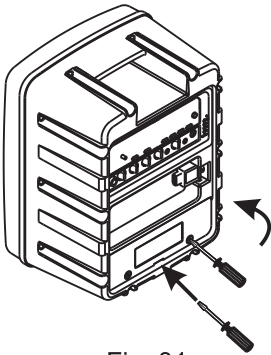

Fig. 31
- (A) Charge the battery completely in its first use to obtain its maximum capacity.
- (B) Connect to any available AC power outlet using the included DC adapter to the DC IN jack.
- (C) The Battery Charging Indicator  LED blinks while charging. Blinking LED may start later if the battery suffers from excessive battery drain. The battery may be damaged if the LED does not blink after charging for a while.
- (D) The battery is low when only the red LED is on. Please recharge the batter for at least 4 hours (the time of charging depends on the type of battery).
- (E) All LED blinking means the battery is charging. Charging completes when all LEDs glow.
- (F) Fully charge the battery for storage if it will not be used for an extended period of time. Battery may lose some capacity overtime. Over-discharged occurs and may damage the battery if not recharged for a long period of time. Thus, it is recommended to recharge often or every 3 months.
- (G) This device has 2 automatic power cut-off functions. Battery display will drop to red color for a period of time during low power status. Power will automatically shut-off to prevent battery operation. Recharge the battery immediately to avoid damage due to over-discharging.
- (H) Change to a new, fresh battery when battery hours are shortened after recharges due to battery aging.
- (I) All rechargeable batteries are consumables and have a limited lifespan, and eventually need to be replaced. A standard 14.8V lithium battery from MIPRO is recommended to ensure compatibility and performance.
- (A) Lay the PA system on a flat surface. Remove the two screws and use flat blade screwdriver to open the battery compartment cover, Fig. 31.